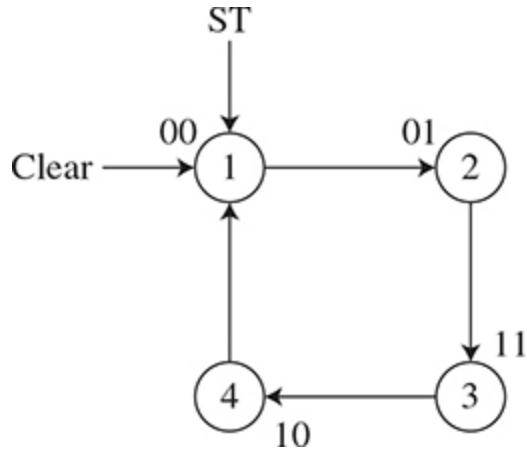

Figure 11.18 A state diagram showing the desired number of states to create the sequential logic circuit.
2. Draw a state diagram. The state diagram generally consists of circles that represent each of the states. Figure 11.18 is an example. Lines with arrows show the transitions from one state to the next. The number of states determines the number of flip flops you are going to need to build the circuit.
- Draw the state diagram. See Fig. 11.18. The states are numbered, and the related binary code is listed. Any special input conditions are also noted. A state machine is like a special counter and is made up of flip flops and gates but has specific states that occur in a unique sequence. The transitions from one state to another depend upon external inputs and logic. Each is specially designed for the application. The special conditions noted here are a start signal. ST is needed to begin the cycle. A reset or clear input is used to set the counter to its initial state of 00.